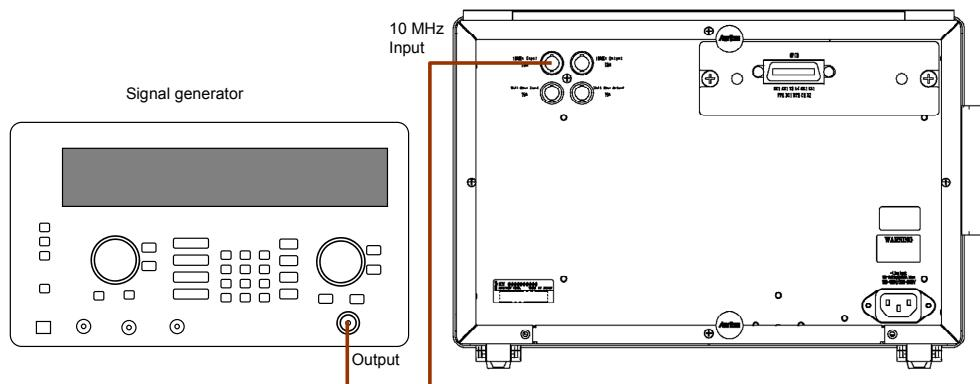

Figure 8.4-3 Measurement System for 10 MHz Input terminal
1. Connect the 10 MHz Input terminal at the rear panel of the MD1260A and the signal generator (Figure 8.4-3).